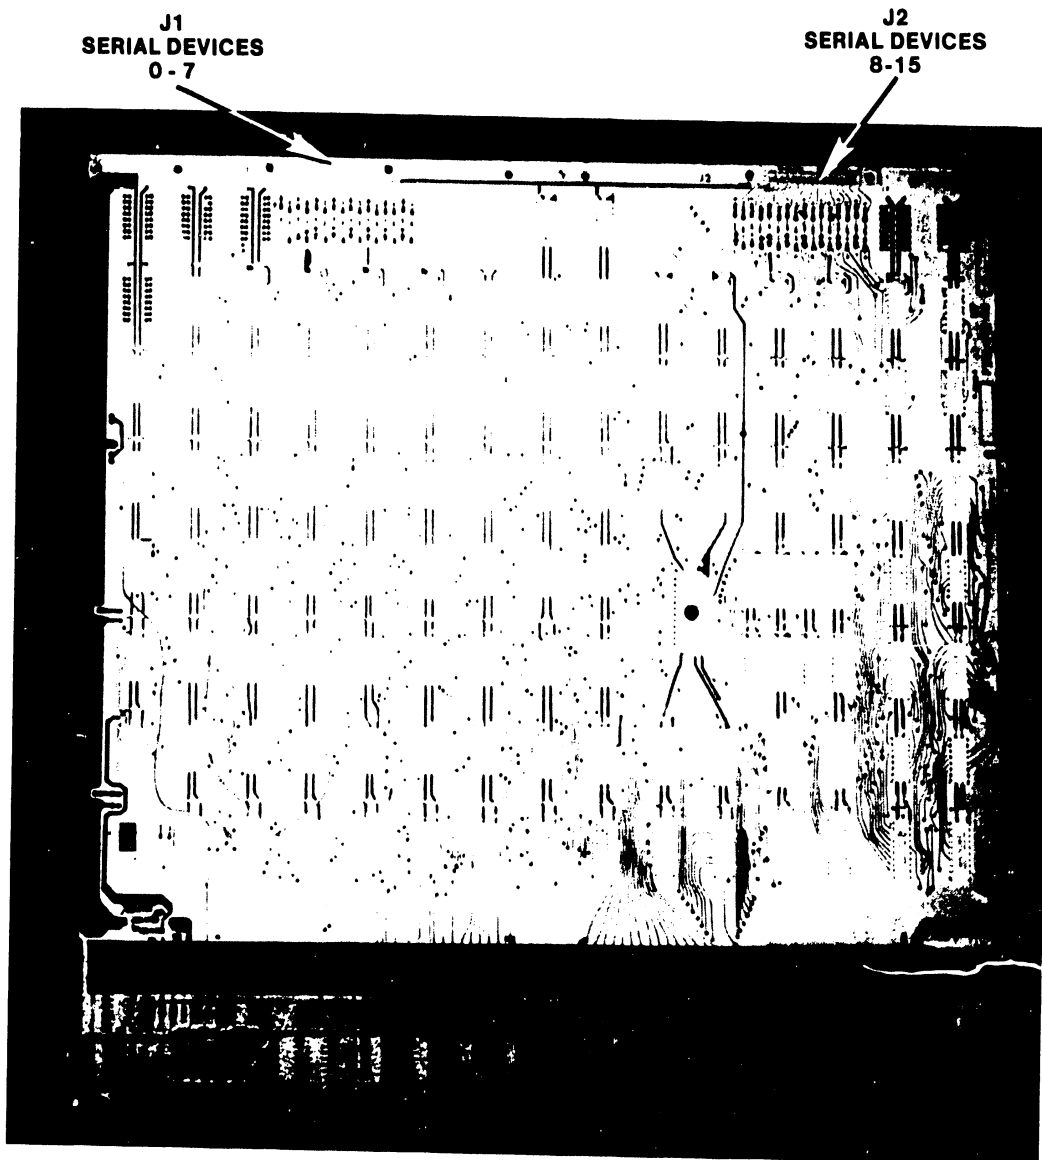

Figure 5-26. 22V27-2 16-Port Serial IOP
1. Remove all connectors from the top of the 22V27-2 16-Port Serial Device IOP assembly (figure 5-26) in IOP slot #2 of the Motherboard (for the first 16 serial devices) or IOP slot #3 (for the 2nd 16 serial devices). Note the position of all connectors for later re-assembly. (Workstation 0 must be connected to Port #0 of IOP slot #2. This is a microcode convention and MUST be adhered to.)